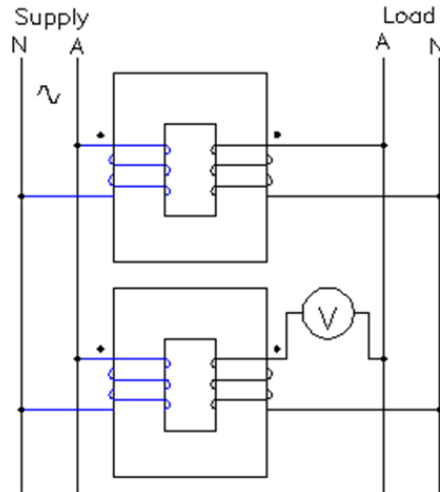

Figure 16 - Paralleling single phase transformers
42. Check Before Paralleling - Before two small transformers are connected in parallel a voltmeter should be connected as shown in Figure 16. If the reading is zero the connection is correct. If the reading is double the normal secondary voltage the connection is incorrect. To connect it correctly, reverse the output terminals from the secondary of one of the transformers.